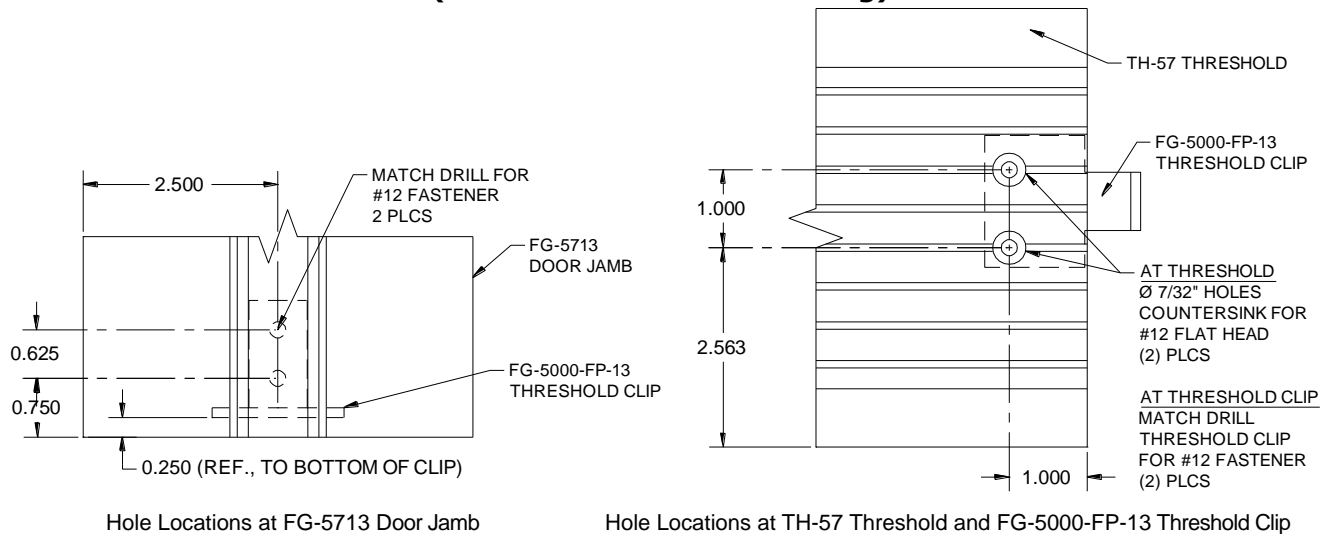

Figure 10: Fabrication for ArmorDefend™ Plus Framing at Threshold Clip
- 3.1.3 If not factory prepped, align **FG-5000-FP-13** Threshold Clip to **FG-5713** Door Jamb and match-drill for #12 Fastener. Threshold Clip should sit 1/4" from bottom of Door Jamb. See *Figure 10* for guide.
- 3.1.4 If not factory prepped, drill the **TH-57** Threshold and the **FG-5000-FP-13** Threshold Clip. At each end of Threshold, drill two 7/32" holes with a countersink for a #12 Flat Head fastener, per *Figure 10*. Match drill the Threshold Clip for #12 Fasteners.